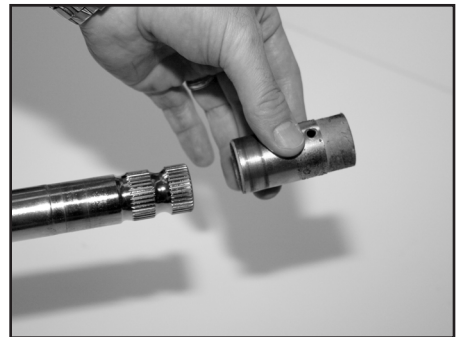

Figure 7
13. Remove the rivet and slide the outer shaft contact ring to lower end and remove. Figure 7